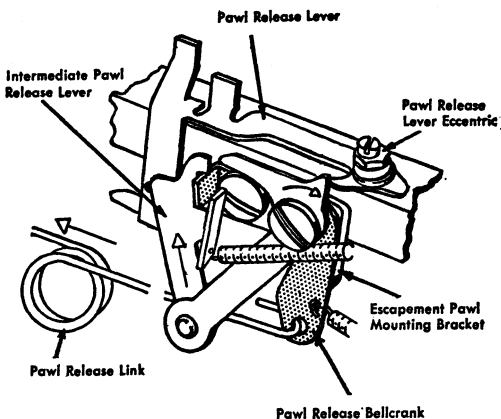

Figure 45. Pawl Release Lever Eccentric
9. PAWL RELEASE LEVER ECCENTRIC. Adjust this so that the right side of the ear on the pawl release lever just clears the intermediate pawl release lever when all the parts are at rest (Figure 45). Keep the high point of the eccentric toward the front of the machine.